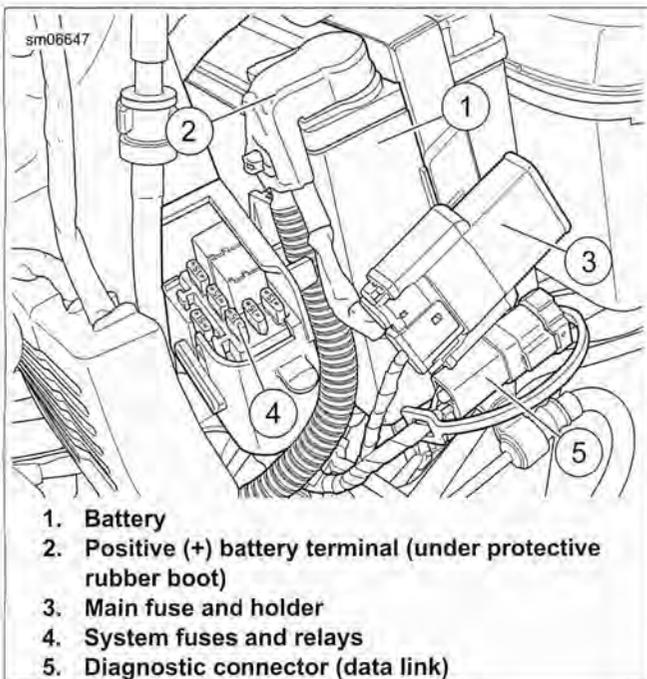

Figure 2-135. Main Fuse and Battery Location: All Models
See Figure 2-135. The left side cover provides access to the battery (1), fuses (3, 4) and diagnostic connector (5). No tools are required to open or close the cover.